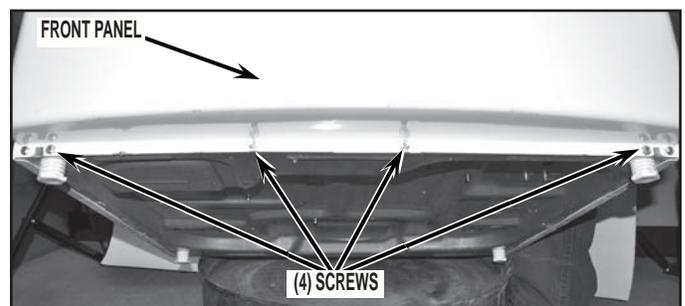

FIGURE 7
10. Remove front panel by first removing four (4) screws from bottom of front panel as shown in *Figure 7*.